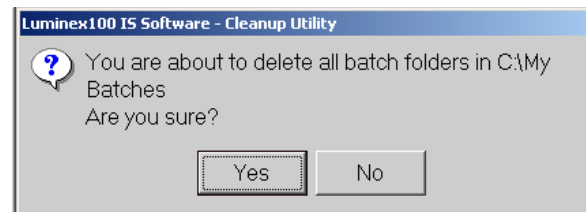

Figure 5-112 Cleanup Utility Confirmation Dialog Box
2. In the **Cleanup Utility** confirmation box click **Yes** to delete all the batch folders See Figure 5-112. All the folders under C:\My Batches are deleted. The C:\My Batches folder remains.